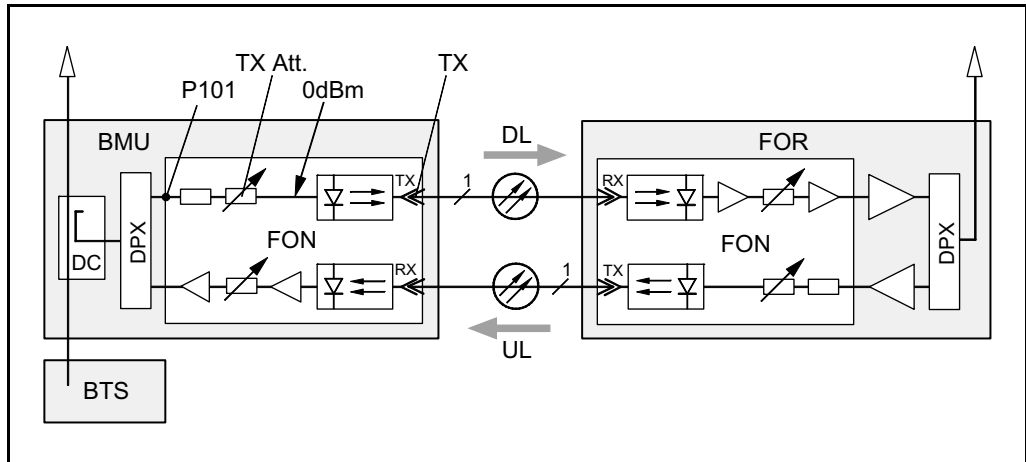

Figure 6-1. Master unit downlink path
Figure 6-1 shows a fiber optic system in a BMU and a FOR. These units are also used as examples in the instruction.
2. Measure the downlink input RF signal power (from the BTS) at the FON board connector 'P101' in Figure 6-1 (or at the OCM/BMU 19" rack) using a spectrum analyzer.